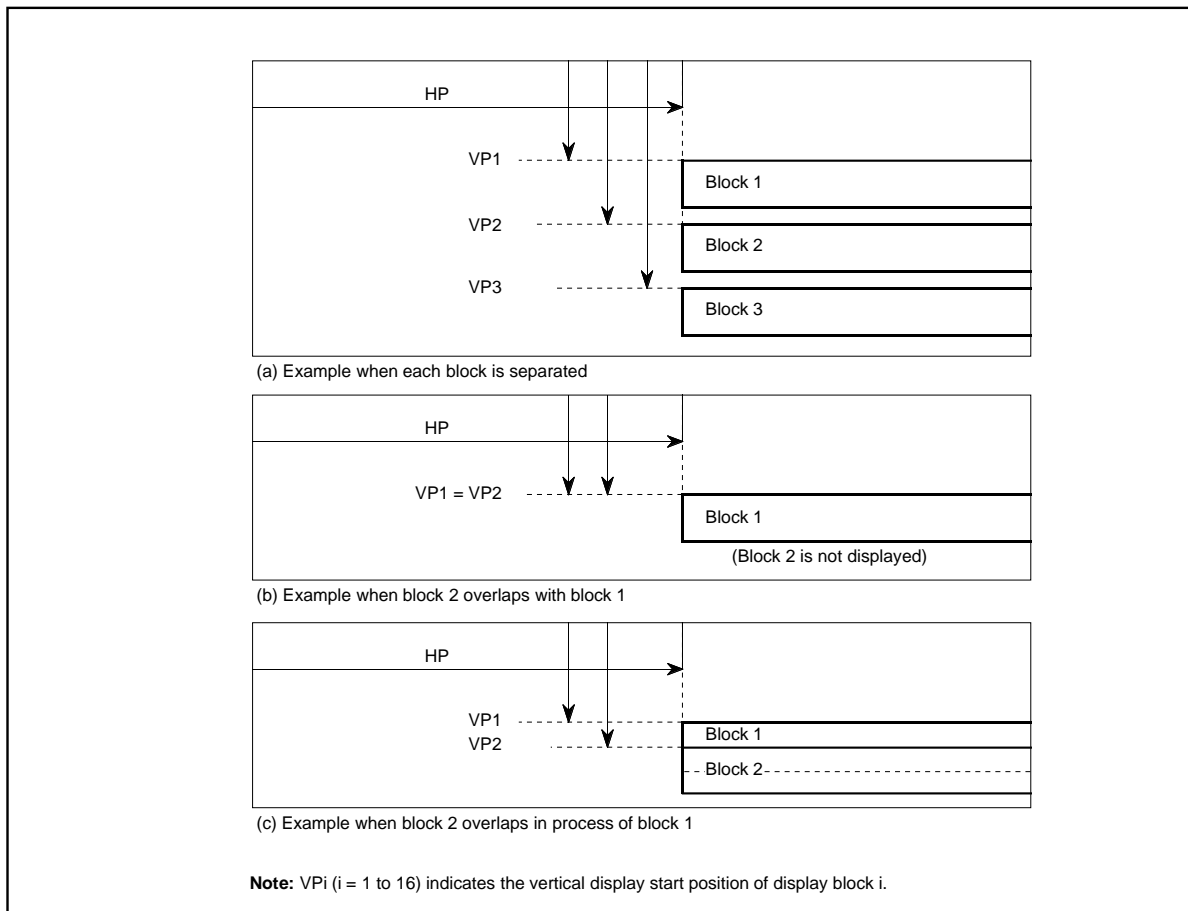

Figure 2.16.8 Display position
- When the display position is overlapped with another block in the same layer (Figure 2.16.8 (b)), a low block number (1 to 16) is displayed on the front.
- When another block display position appears while one block is displayed in the same layer (Figure 2.16.8 (c)), the block with a larger set value as the vertical display start position is displayed. However, do not display block with the dot size of $2Tc \times 2H$ or $3Tc \times 3H$ during display period (*) of another block.